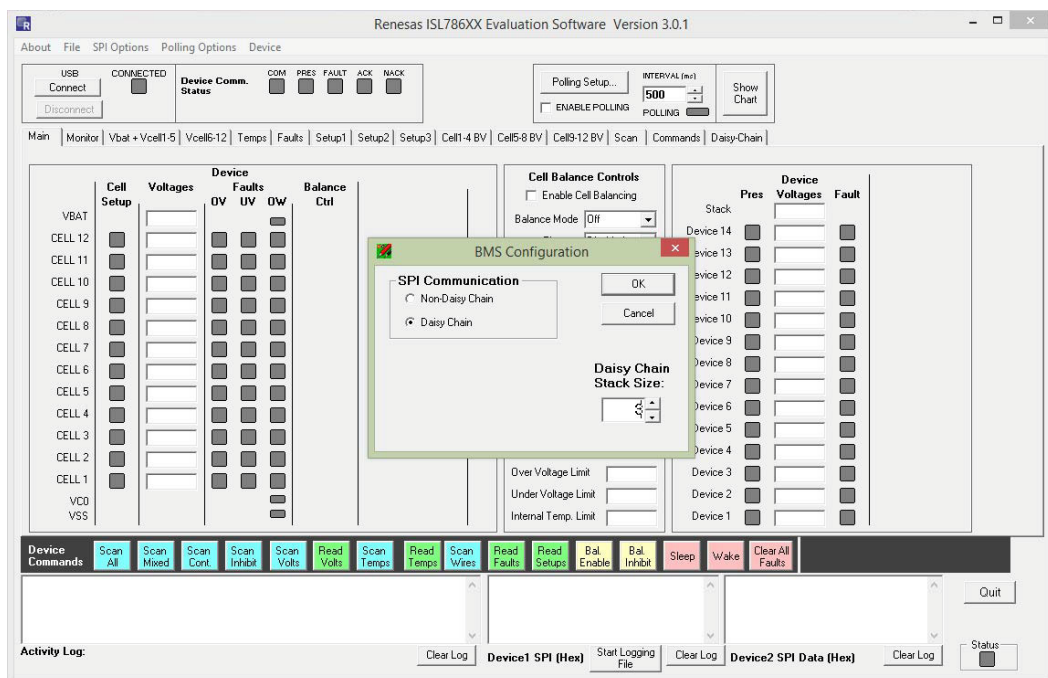

Figure 10. GUI Configuration Select
3. Open the ISL78600 GUI software. From the Startup screen, the software takes you to the Configuration Screen (see Figure 10). For a stand-alone configuration, select **Non-Daisy Chain** in the BMS Configuration box, then click **OK**. For a daisy chain configuration, select **Daisy Chain** in the BMS Configuration box and select the number of devices in the daisy chain, then click **OK**. The GUI returns to the main screen and automatically connects to the system.